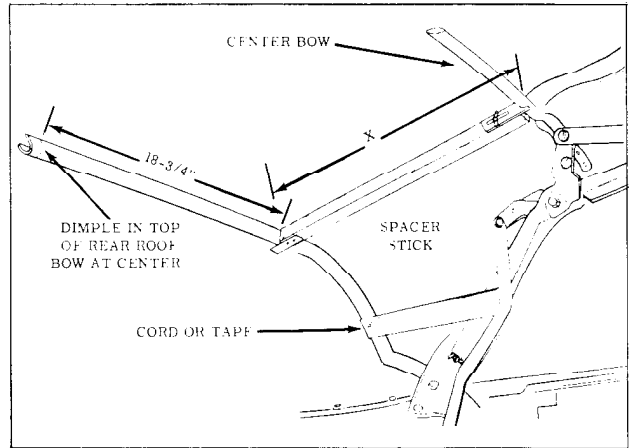

Fig. 15-89 Installation of Spacer Sticks
rear roof bow. (Fig. 15-89) Spacer sticks should be installed along inboard edge of side stay pad or approximately 18-3/4" outboard from centerline dimple. While exerting rearward pressure on rear bow to draw side stay pads taut, extend spacer sticks until they fit snug between center bow and rear roof bow, then tighten wing nuts.
13. Temporarily tie or tape rear bow to rear side roof rails. (Fig. 15-89) Detach nylon webbing, side stay pads and back curtain assembly from rear bow.
1. If new top is being installed but it was impossible to perform Step 12 of removal procedure, preset spacer sticks to shortest length and install between center and rear roof bow. (Fig. 15-89) Adjust sticks so that dimension "X" in Fig. 15-89 (measured along spacer stick from front upper rolled edge of rear roof bow to center of center bow) is 17-3/4"